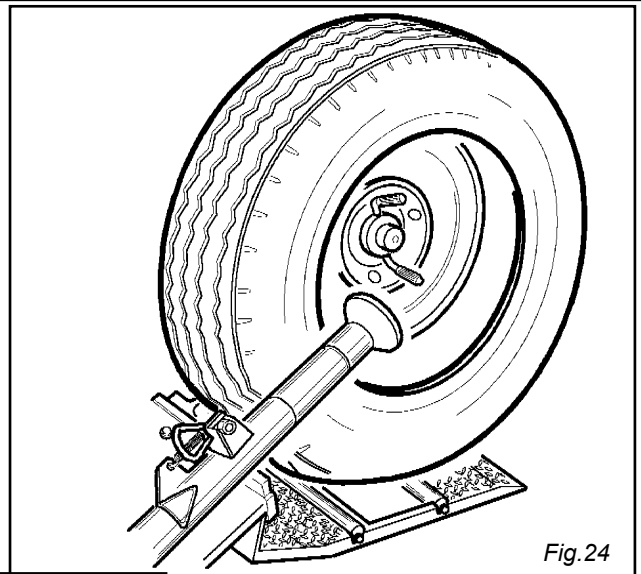

Fig. 24
7) By means of levers (3) and (4), position the roller tool against the outside tire bead and turn the tire until the pliers is in its lowest point. First bead should be in position now (fig.24)